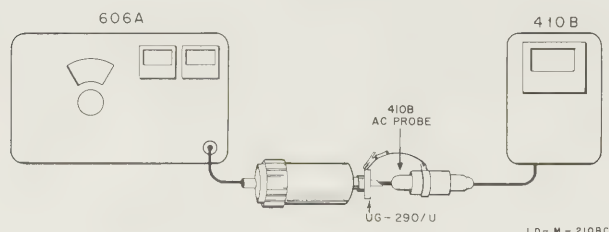

Figure 4-5. Output Level Frequency Response
a. Connect ac probe of Φ Model 410B High Frequency VTVM to 11507A Output Termination as shown in figure 4-5. Solder tip of Model 410B ac probe to center conductor of UG-290/U connector. Clip ground lead